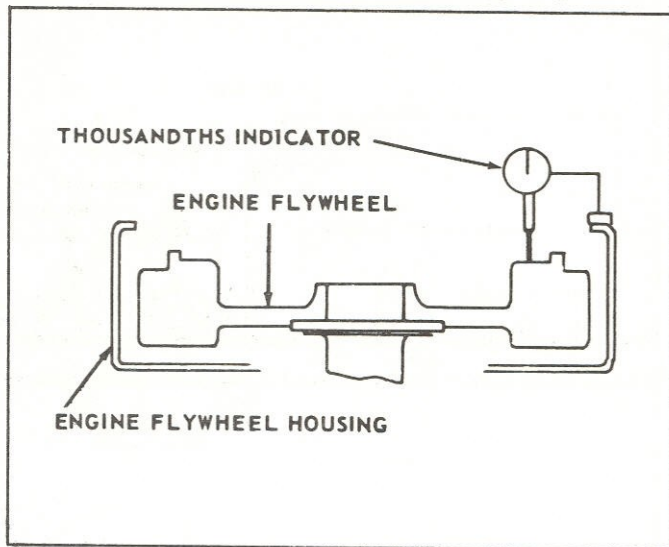

Figure 39. Checking the Isolator Surface of the Engine Flywheel.
**D. Checking the Torsional Isolator Mounting Surface on the Flywheel.** Bolt a dial indicator to the engine flywheel housing so the stem of the indicator contacts the mounting surface for the isolator, perpendicularly. The variation of face runout of isolator mounting surface should not exceed 0.0005 inch per inch of diameter of isolator (fig. 39).